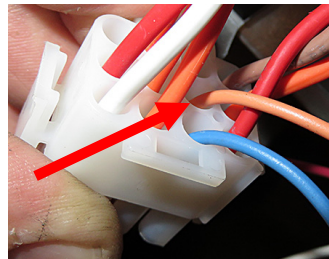

Figure 21
22. Insert the orange wire into J2 plug pin 5 (see Figure 21).